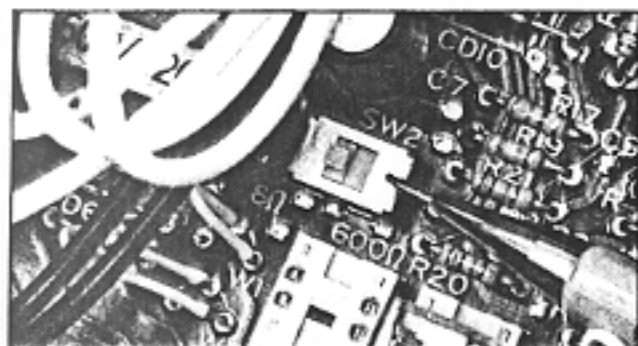

FIGURE 48—MTOU IMPEDANCE SWITCH
11.42 The 8 Ω output impedance must be selected with the SW2 switch on the MTOU (Figure 48). The switch must be on the side labeled "8".
11.52 Determine which output impedance is most suitable for the amplifier being used, and make the selection with the SW2 switch on the MTOU (Figure 48).